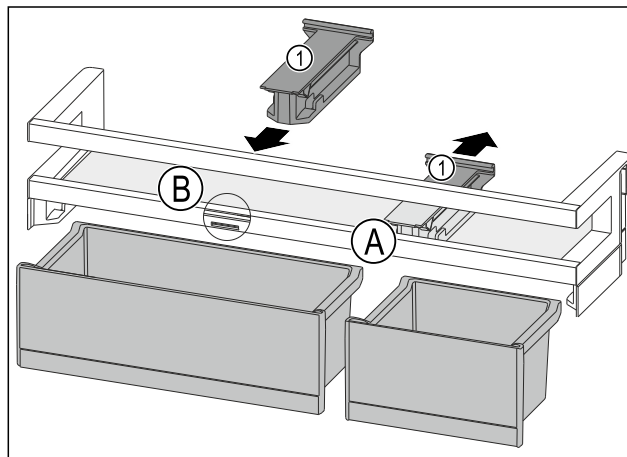

Fig. 128
- ▶ Take off the holding part Fig. 128 (1) in position Fig. 128 (A) backwards.
- ▶ Insert the holding part Fig. 128 (1) in position Fig. 128 (B).